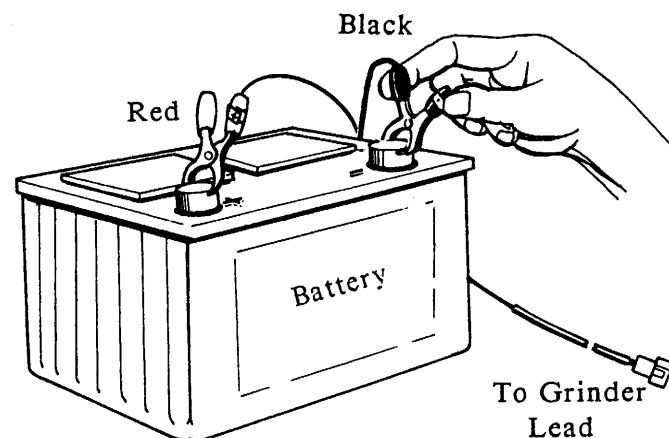

FIGURE 1A
3. The LTADS sharpener can also be powered directly by a 12 volt DC storage battery. Use the provided socketed pigtail with the clips as before, but attach the clips to the terminals of a car or truck battery (See Figure 1A). Plug the grinder lead into the pigtail socket. Check the motor shaft rotation. Rotation of the shaft should be counter-clockwise when viewed from the end of the motor shaft. If direction is wrong, reverse the two clips on the battery terminals.